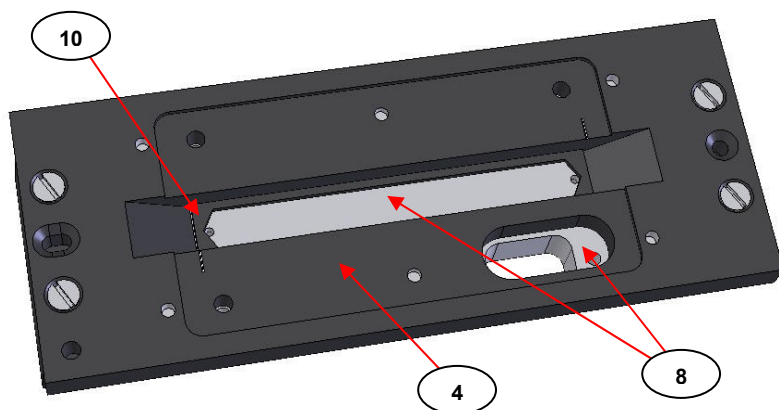

Fig 8. Isolast Gasket Seal in the Gateway™ ATR Thermostabilised Flow Through Top Plate
When the ATR crystal (9) has been removed from the Top Plate assembly, access can be gained to the Isolast gasket seal (10) for cleaning or replacement with new if necessary. (See **Fig 8.**)
- 1) Having cleaned all of the parts sufficiently and whether installing a new crystal (9) and/or new Isolast gasket (10), re-assemble the Gateway™ ATR Thermostabilised Flow Through Top Plate first by aligning correctly and centrally the Isolast gasket seal (10) into the underside channel recess of the main body plate (4). (See as **Fig 8.**)